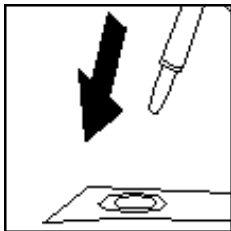

Figure 2A
4. Insert a pole into the grommet located at the ground seam at one of the four corners of the tent body (figures 2A and 2B). Insert the other end of the pole into the grommet at the opposite corner of the tent.